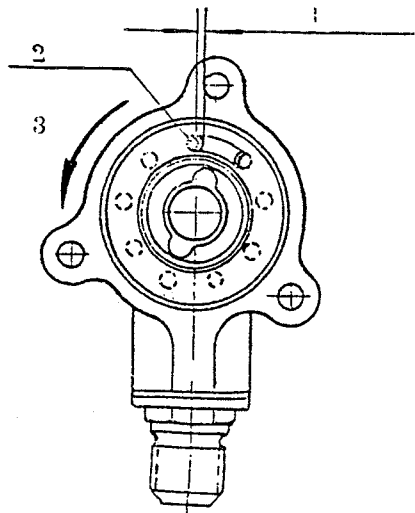

Fig. 3 Adjustment of the Starting Compressed-air Distributor
(3) Turn the distributing valve in the rotating direction, when the exposure of the hole leading to No. 4 cylinder is not more than 0.1mm (Fig. 3), fix the distributing valve by means of the fixture of the starting compressed-air distributor.